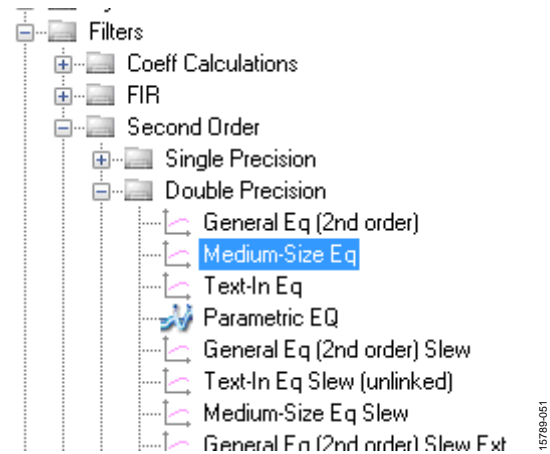

Figure 49. Medium-Size Eq Block Selection
- a. From the **Filters > Second Order > Double Precision** folder, click **Medium-Size Eq** (see Figure 49) and drag it into the project space to the right of the toolbox.